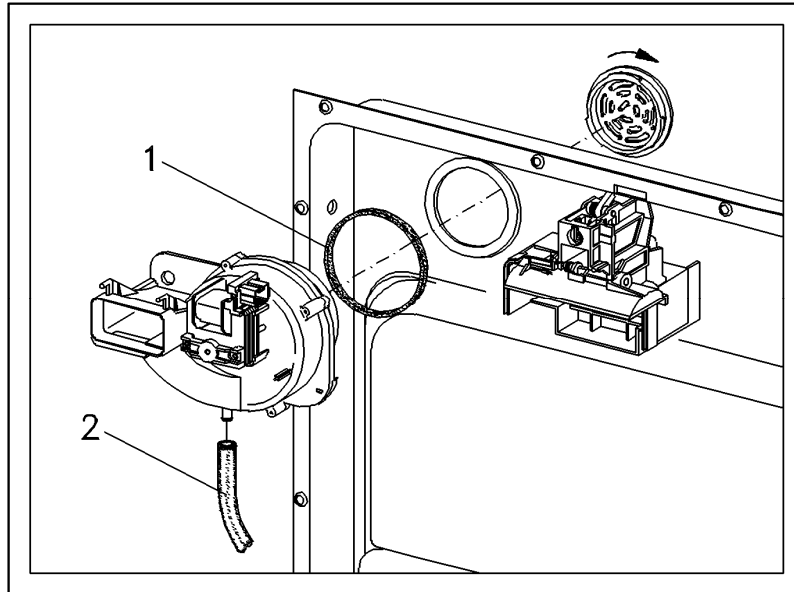

Figure 5-12: Fan Removal
4. Disconnect the Connection Plugs and the Drain Hose, to the Combination Dispenser (Figure 5-12 - Item 2).